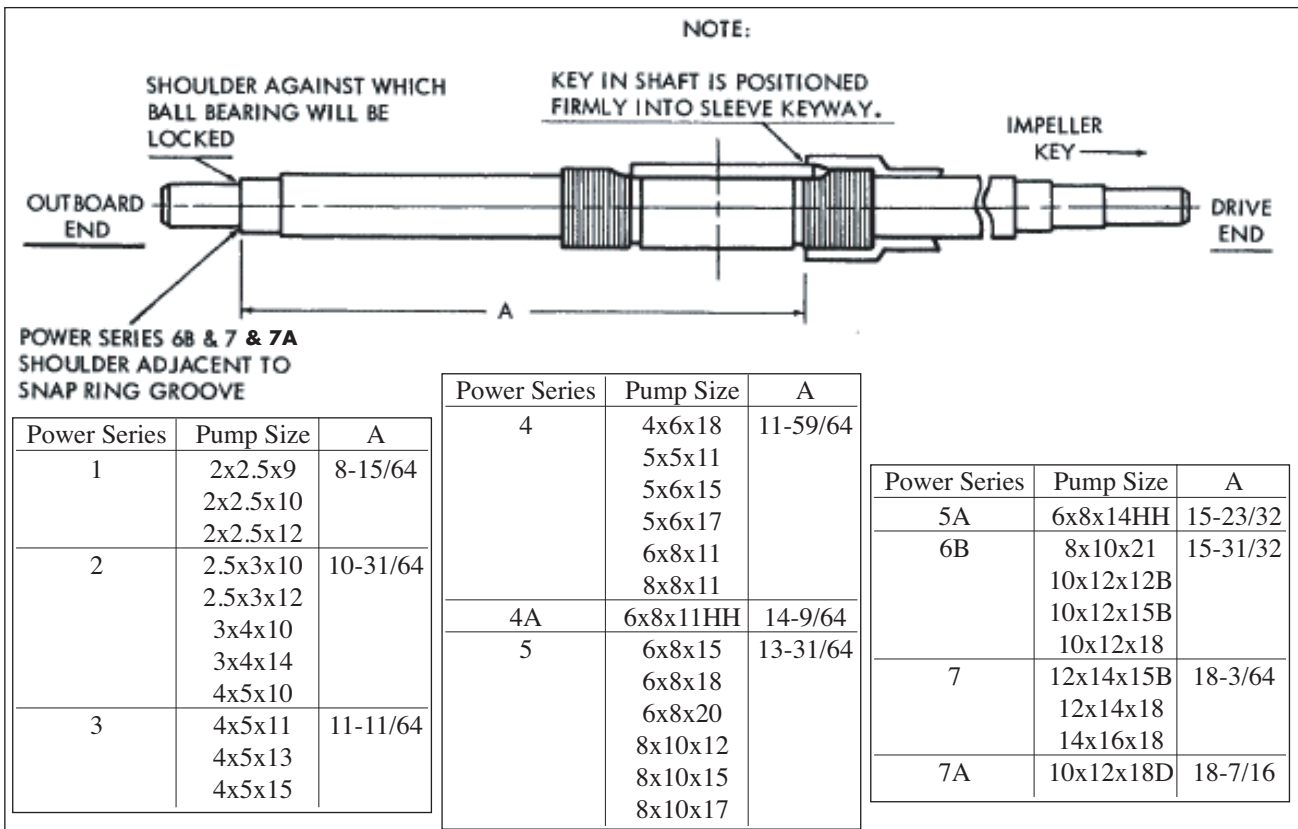
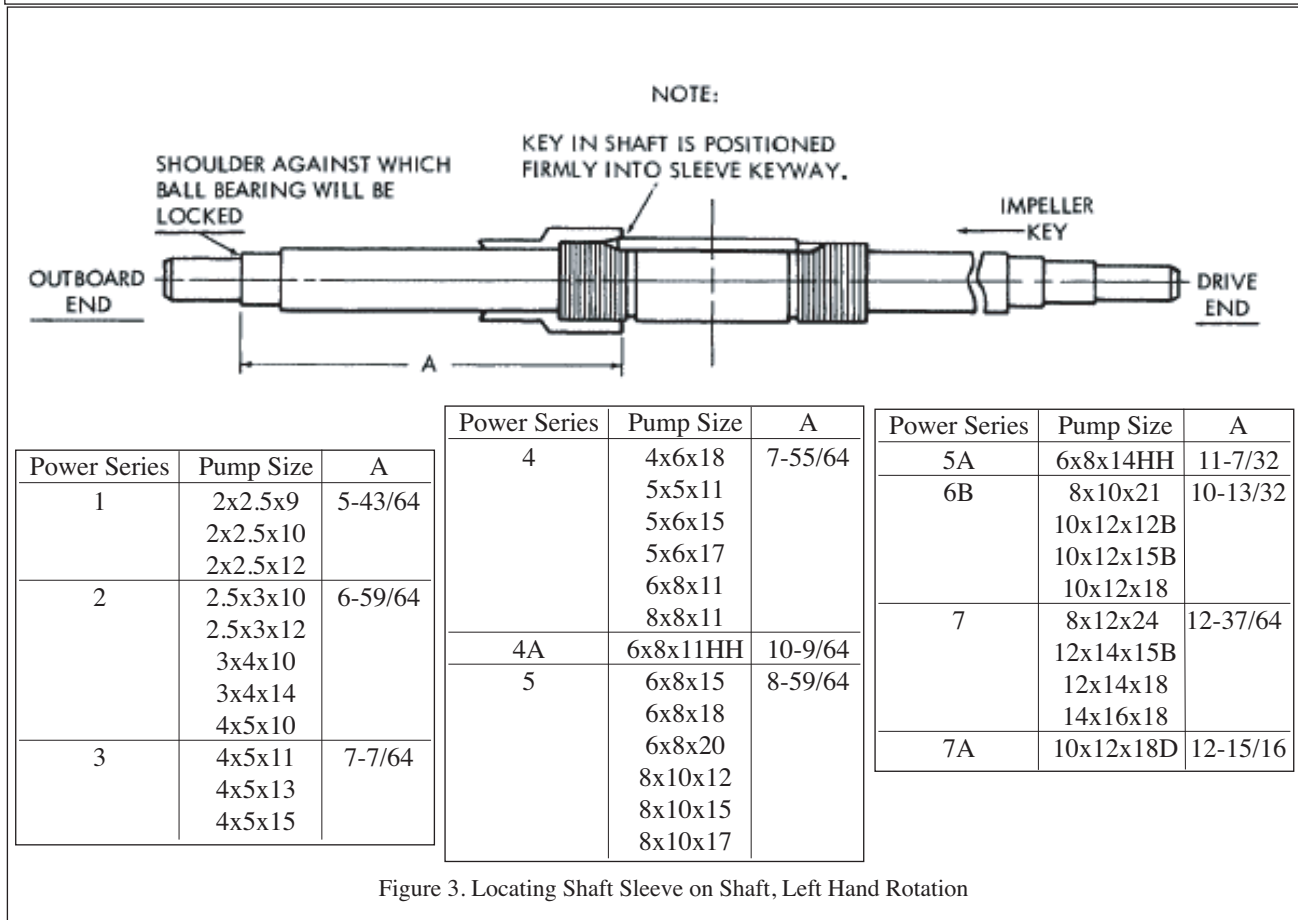

Figure 2. Locating Shaft Sleeve on Shaft, Right Hand Rotation
Figure 3. Locating Shaft Sleeve on Shaft, Left Hand Rotation
1. For Model 412, 413 & 483 pumps, reassemble base (77) to casing half (69) with capscrews (76). Set these parts back on their foundation and connect them to the suction and discharge piping, then secure the base to its foundation by tightening nuts on foundation bolts.
2. Position locating pins (67) in lower casing (69), adding swing bolt pins (68), if used on your pump. Install wearing ring pins (66). Tap pins gently to seat them in place. If name plate (71) was removed, install it with screws (70). Install o-ring (62) in shaft sleeve
3. On right hand unit, thread inboard sleeve (64) onto shaft (65) distance "A" (refer to figure 2). On left hand unit, thread outboard sleeve (57) onto the shaft distance "A" (refer to figure 3). When the sleeve is in position its keyway should align with keyway on shaft. Coat key and keyway with loctite sealant grade 242. Insert key (63) into keyways of shaft and sleeve. Tap it firmly in place.
4. Coat inside diameter of impeller wearing rings (61) (optional) with Loctite sealant grade 271 and press them over hubs of impeller (59). Do not attempt to hammer impeller wear rings into position, since they are press fit. Use of an arbor press is preferred. However, placing a block of wood over the impeller wearing ring and pressing it in will work satisfactorily. For power frames 5, 6B, and 7 only, two setscrews (78) will be installed by drilling into wearing rings and impeller. The opposite surface for the impeller should be protected from damage throughout the procedures by resting it against soft wood on the surface of workbench.